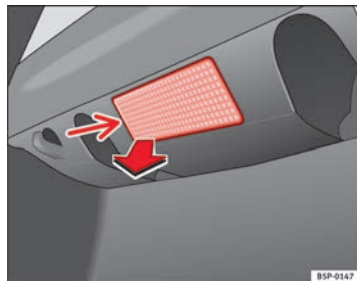

Fig. 174 Luggage compartment light
- Extract the bulb by pressing on its inside edge -arrow- using the flat side of a screwdriver ⇒ fig. 174.